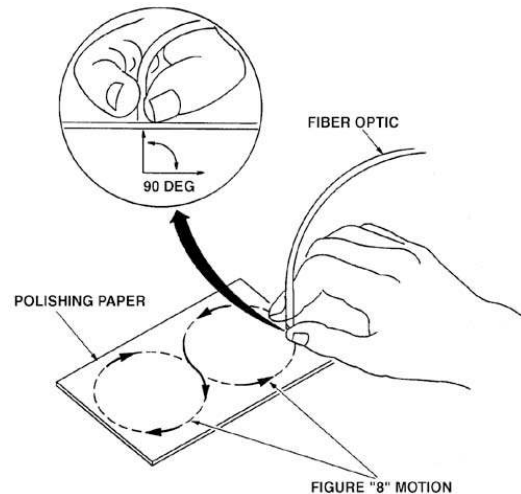

Figure 37. Pattern and positioning of the optical fiber during polishing.
11. Insert connector onto the polishing bushing. Hold assembly firmly between thumb and forefinger, then point ferrule toward the polishing paper and lightly polish, using an elongated figure-8 motion as shown in Figure 37. Continue until fiber end is even with the epoxy bead. Add drops of water as needed to keep the action smooth.